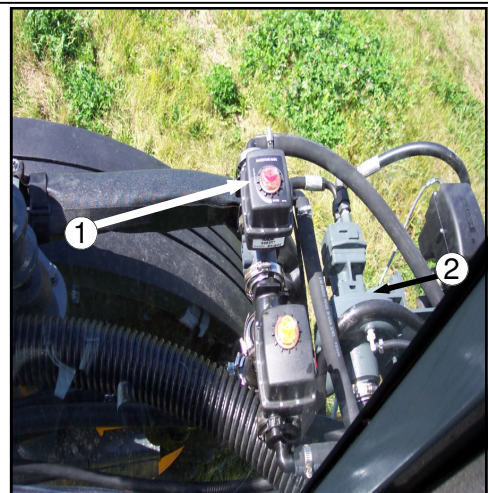

FIG. 64-3
AGITATION– The speed of the sparge agitation system is controlled by a variable flow solution valve (fig. 64-3, item 1) mounted on the solution pump (fig. 64-3, item 2). The agitation switch (fig. 64-4) on the right hand console controls the rate of flow through the sparge system. While watching the indicator on the agi-